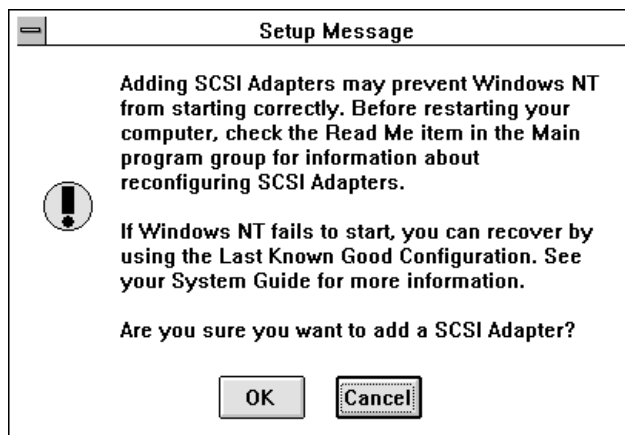

Figure 3-4. Setup Message
- Click on the **Add** button. The message in Figure 3-4 comes to view, advising there could be a start-up problem after installing a SCSI adapter driver.